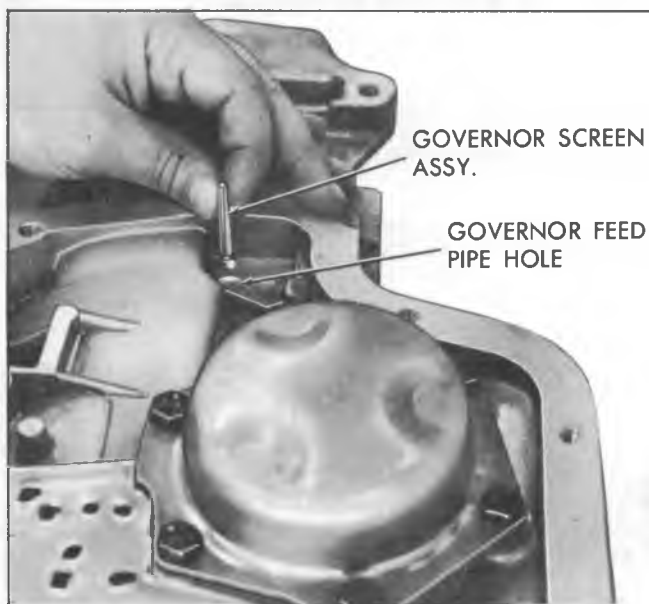

Fig. 10T-A--Removing Governor Screen Assembly
7. Disconnect solenoid lead wires from connector terminal (fig. 10T- B).